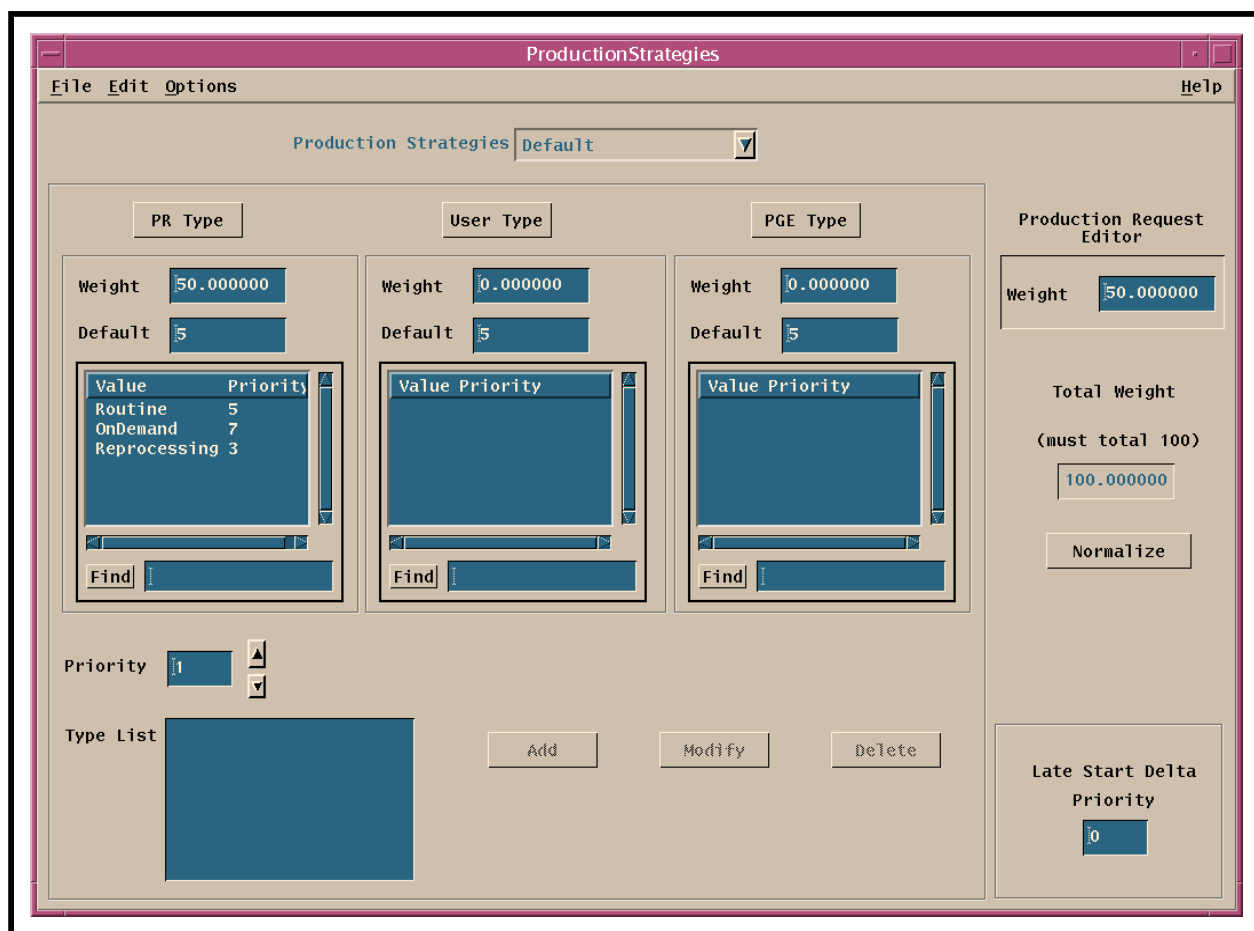

Figure 34. Production Strategies GUI
- The **Production Strategies GUI** (Figure 34) is displayed.